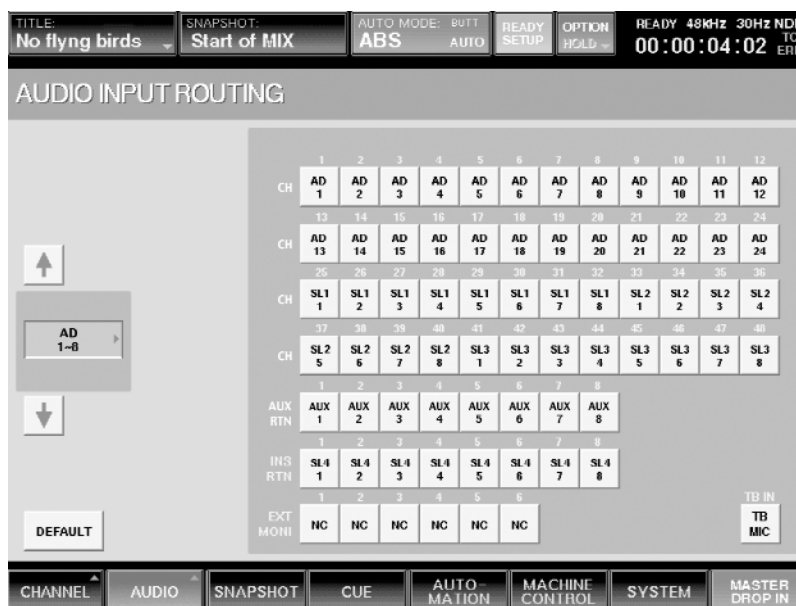

Figure 13
- 1 Press the AUDIO tab at the bottom of the touchscreen, then select INPUT ROUTING. The Input Routing Window appears. (See Figure 13)